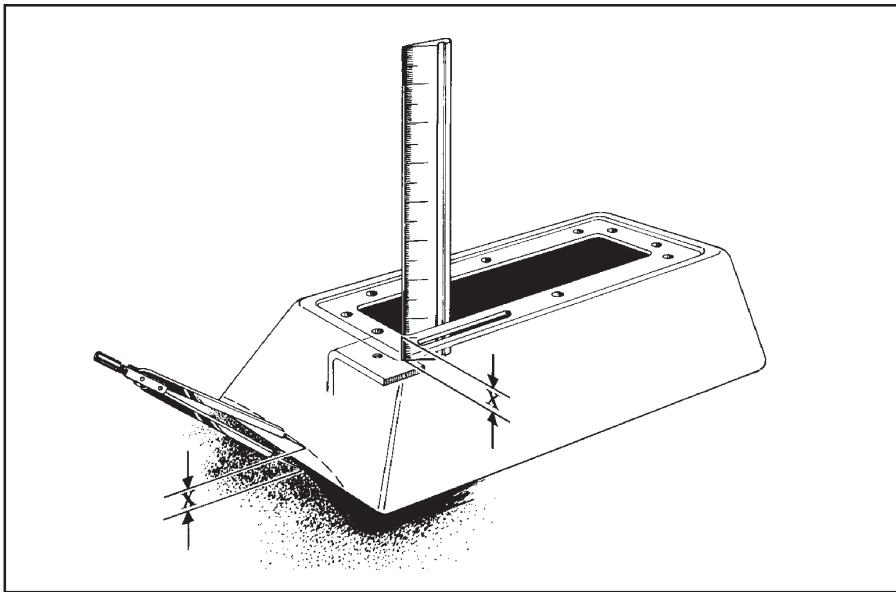

Figure 7
STEP 25. Place the black tower over shifter mechanism until the bottom edge of the tower touches the floor. Hold the tower level to the shifter with the bottom of the tower touching the highest surface on the floor it will come into contact with (See Figure 7). Use a ruler to measure the distance X from the underside of the tower to the tower mounting brackets on the shifter mechanism.
(See Figure 7). Using the dividers, scribe a line around the tower that follows the contour of the floorboard. Remove the tower and trim at the scribe line using tin snips.